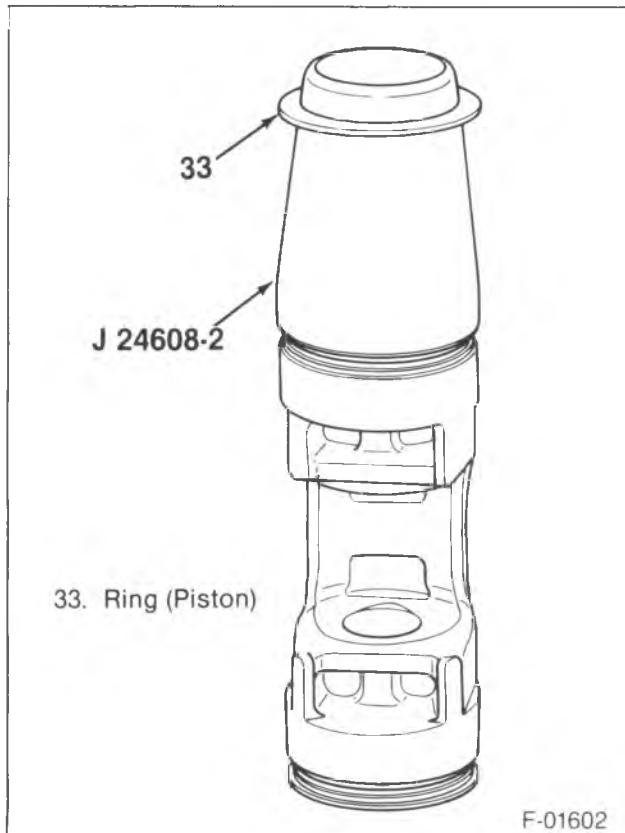
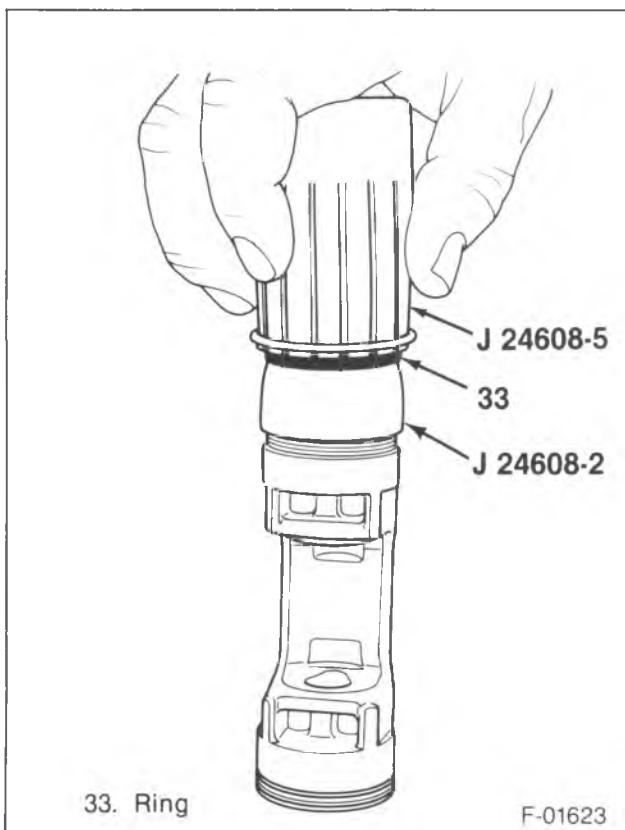

Figure 36—Piston Ring Position and Installer Guide
Figure 37—Installing the Piston Ring
- Piston (32) to J 24608-2 (figure 36).
- Piston ring (33) to J 24608-2.
- Piston ring (33) to piston (32) (figure 37).